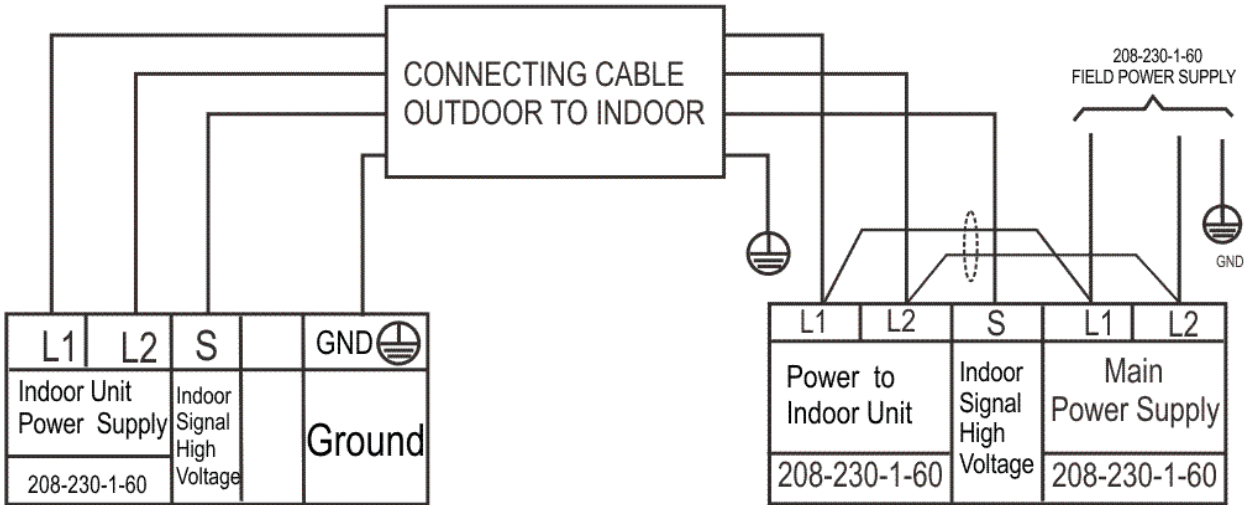

Fig. 27 — Connection Diagram Sizes 12-24
- 3. Connect wiring from the outdoor unit per the connection diagrams (see Fig. 27 and 28).